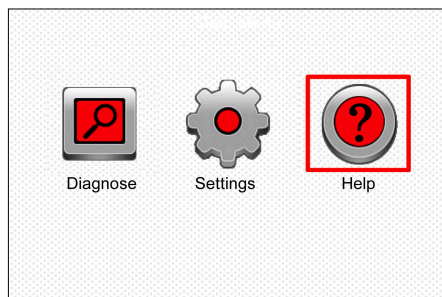

Figure 4
6. When the tool has powered up, place cursor on the Help icon and press the OK button. (Figure 4)